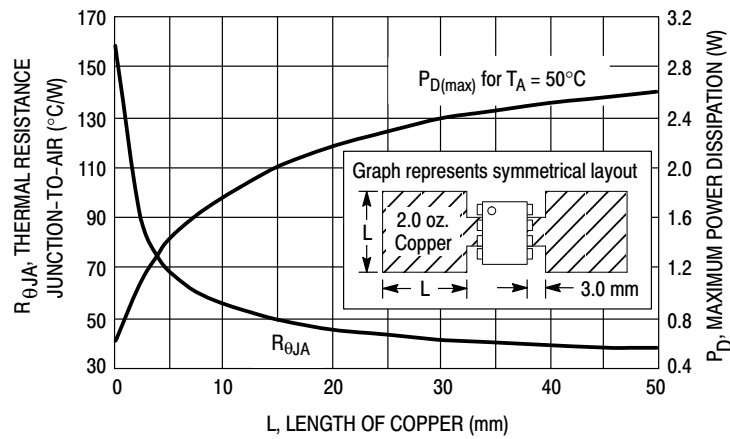

Figure 24. SOP-8 Thermal Resistance and Maximum Power Dissipation versus P.C.B. Copper Length
- SOIC-8 Junction-to-Ambient Thermal Resistance is for minimum recommended pad size. Refer to Figure 24 for Thermal Resistance variation versus pad size.